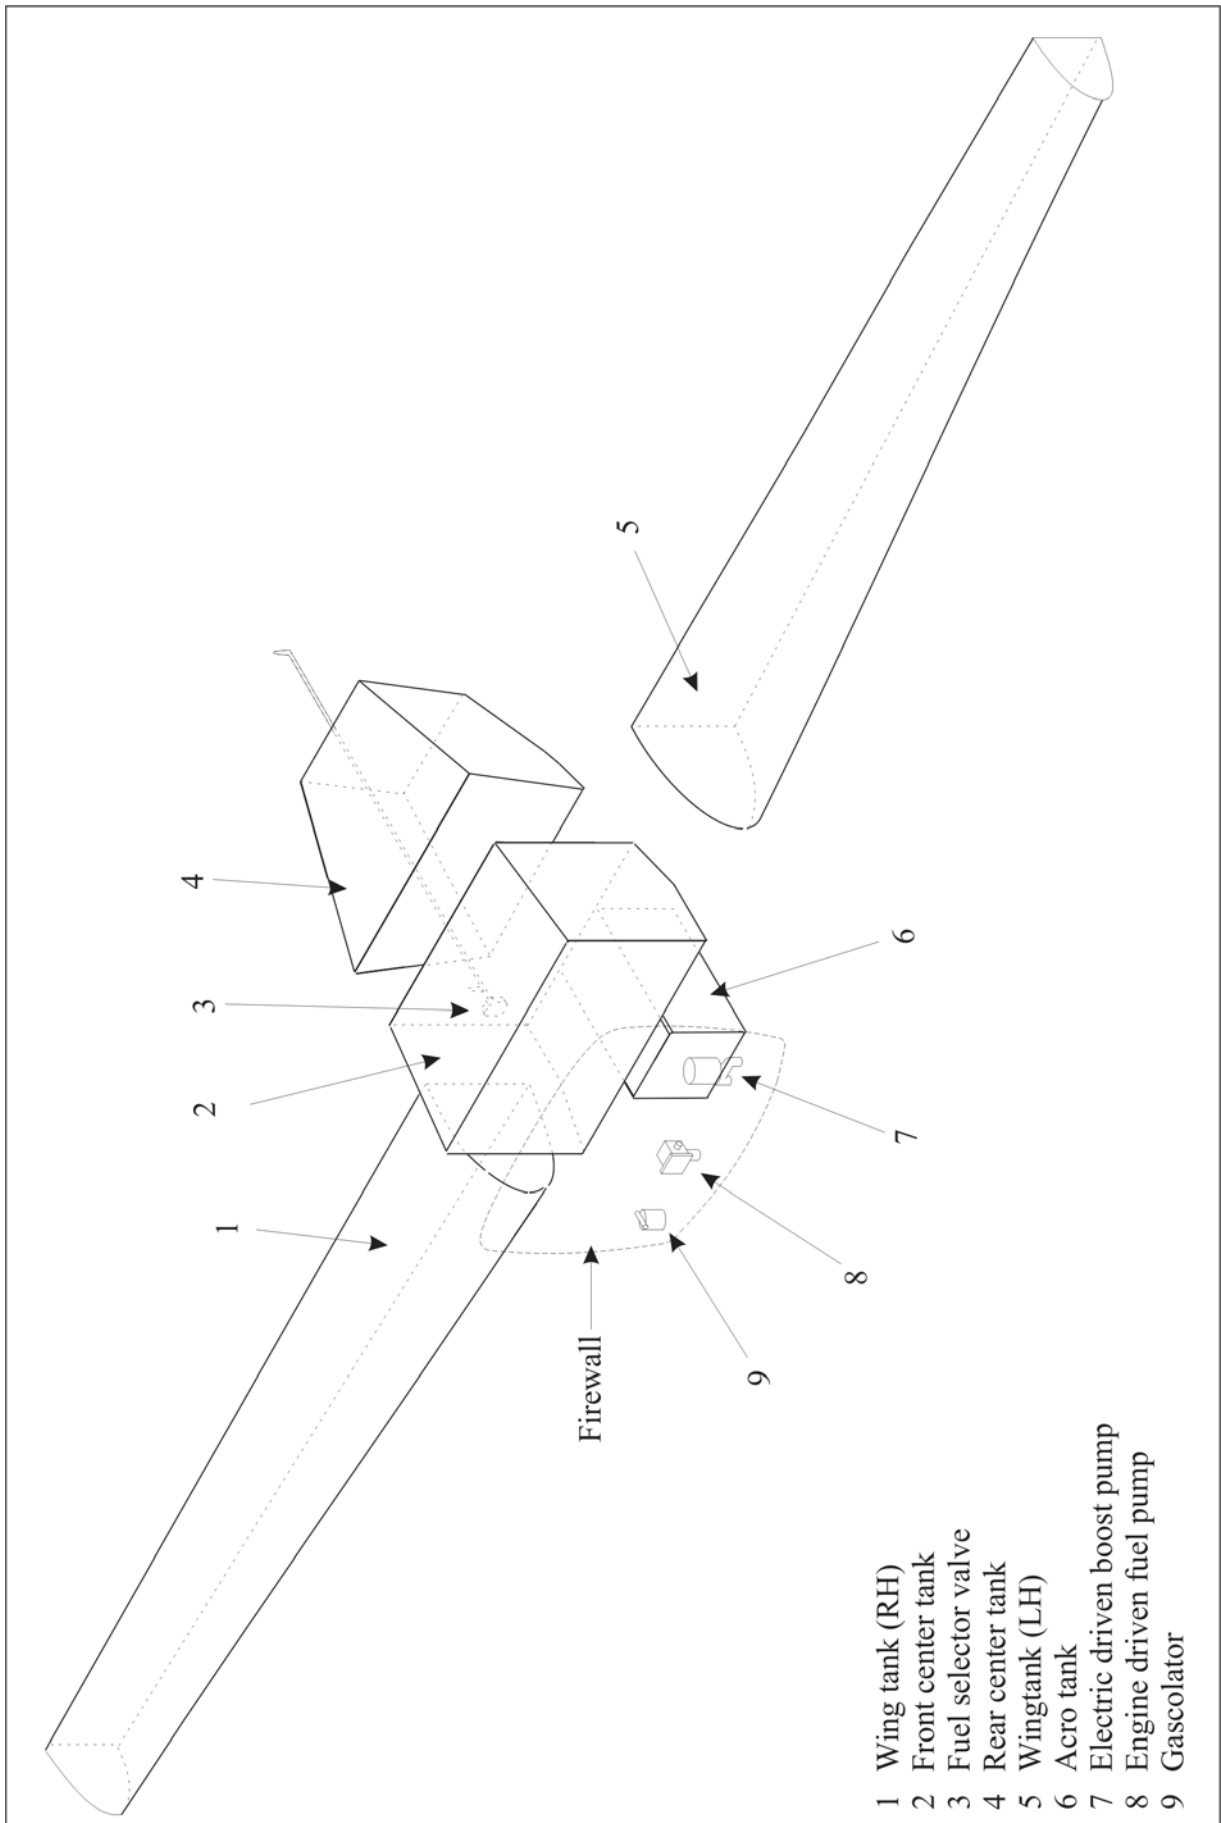

Figure 1
The fuel system (refer to Figure 1) consists of the front center tank (2), the rear center tank (4) an acro tank (6), two wing tanks (1&5), a fuel selector valve (3), a gascolator (9), an electric driven boost pump (7) and an engine driven rotary pump (8).